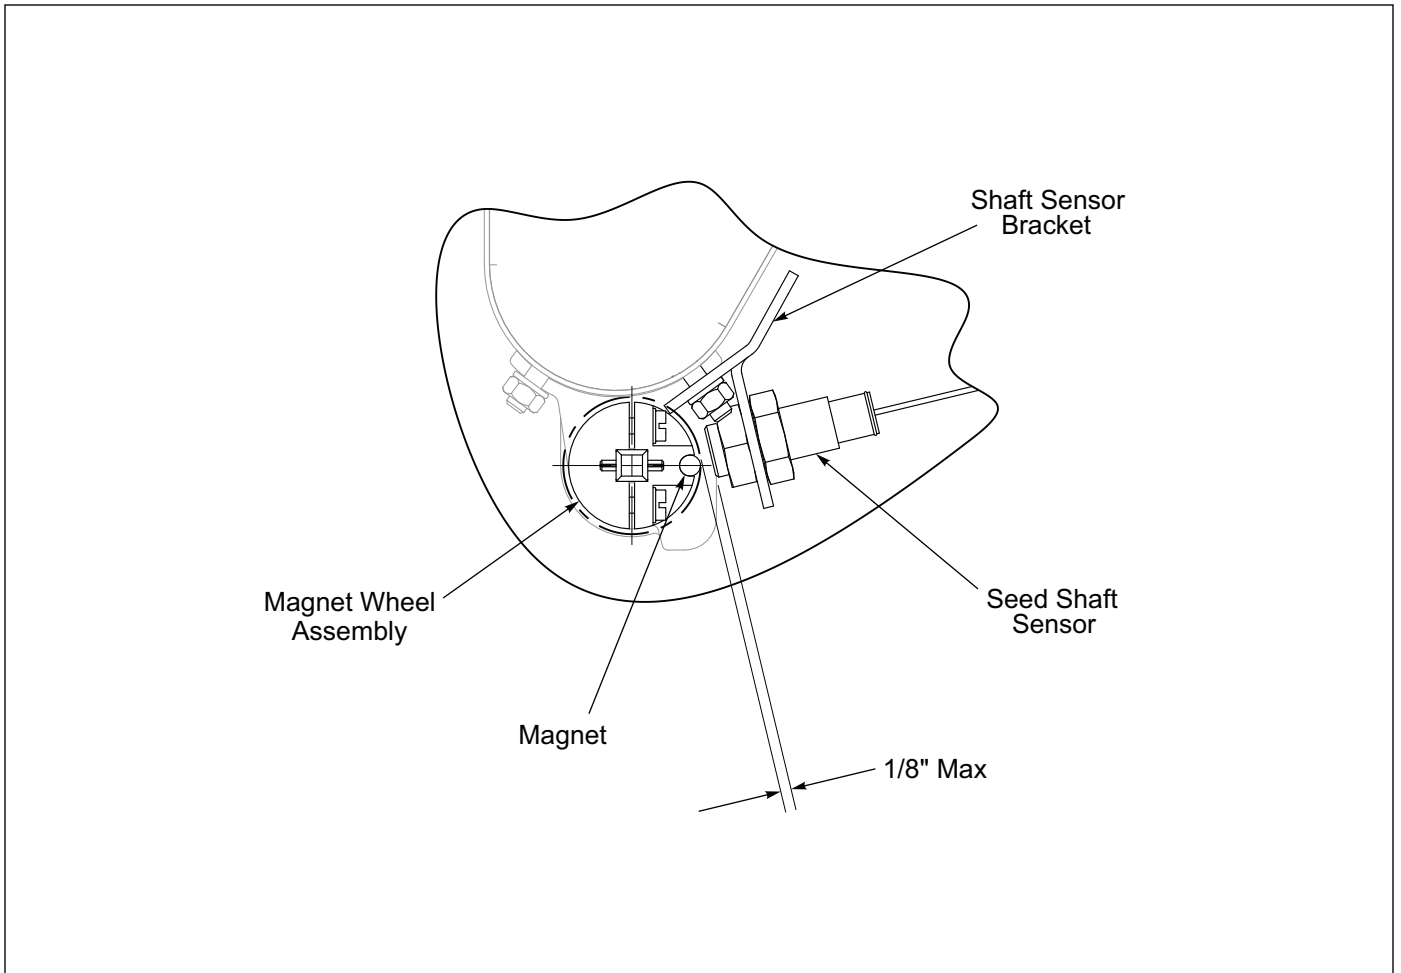

Figure 2-21: Seed Shaft Sensor Mounting Dimension - Seed Meter
1. Remove the two #10 x 24 x 3/4" Self Tapping Screws from the Magnet Wheel Assembly. Position the rounded half of the Magnet Wheel Assembly on the seed shaft. Ensure it fits squarely onto shaft. Mount magnet half to the rounded half. Ensure it fits squarely onto shaft. **See Figure 2-21.**
6. Slide/Position Seed Shaft Sensor so it is 1/8" from the magnet. **See Figure 2-21.** Tighten both Retaining nuts.